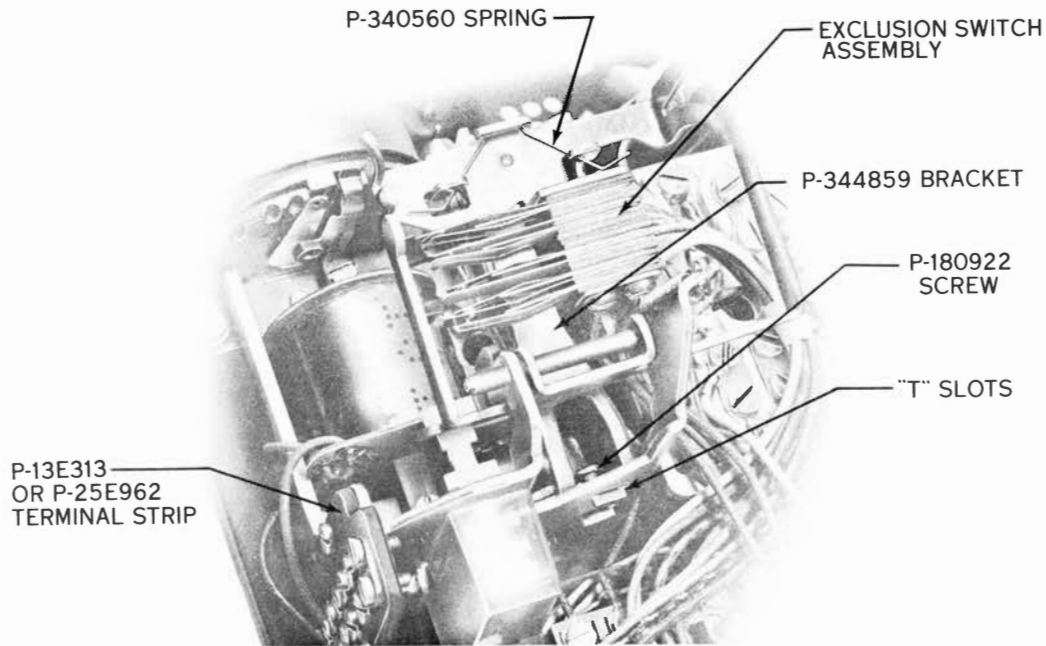

Fig. 4 - P-25E118 Exclusion Switch Assembly, Installed
- (1) Insert the P-344859 bracket into the two T slots precut in the switchhook bracket (Fig. 4).
- (2) Tighten the P-180922 screw which holds the bracket in the T slots.
- (3) Mount the P-340560 spring and exclusion switch assembly on the bracket (Fig. 4).
2.20 Additional terminals for attaching auxiliary equipment must be ordered separately. Sets using the 589-type key (except the 589Y) use a P-13E313 terminal strip. The 589Y and 636A key require a P-25E962 terminal strip. (See Fig. 4.) The auxiliary terminal strip attaches to the switchhook bracket.